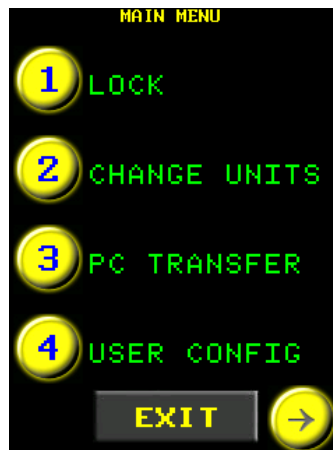

Figure 5.23-1: Main Menu
2. Select **"User Config"** from the Main Menu (Figure 5.23-1).